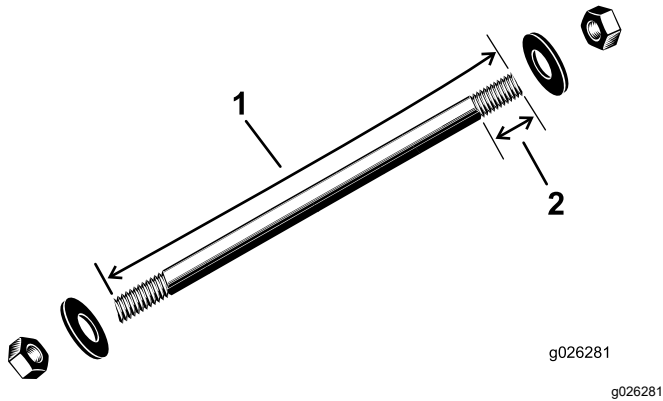
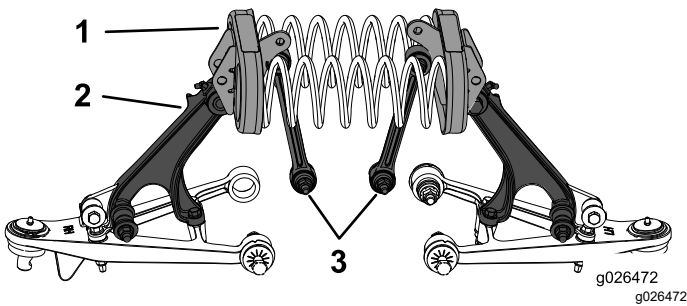

Figure 17
Figure 18
- Using a compression spring tool as specified in Figure 17, install the compression spring rod through the holes in each spring cradle (Figure 18).